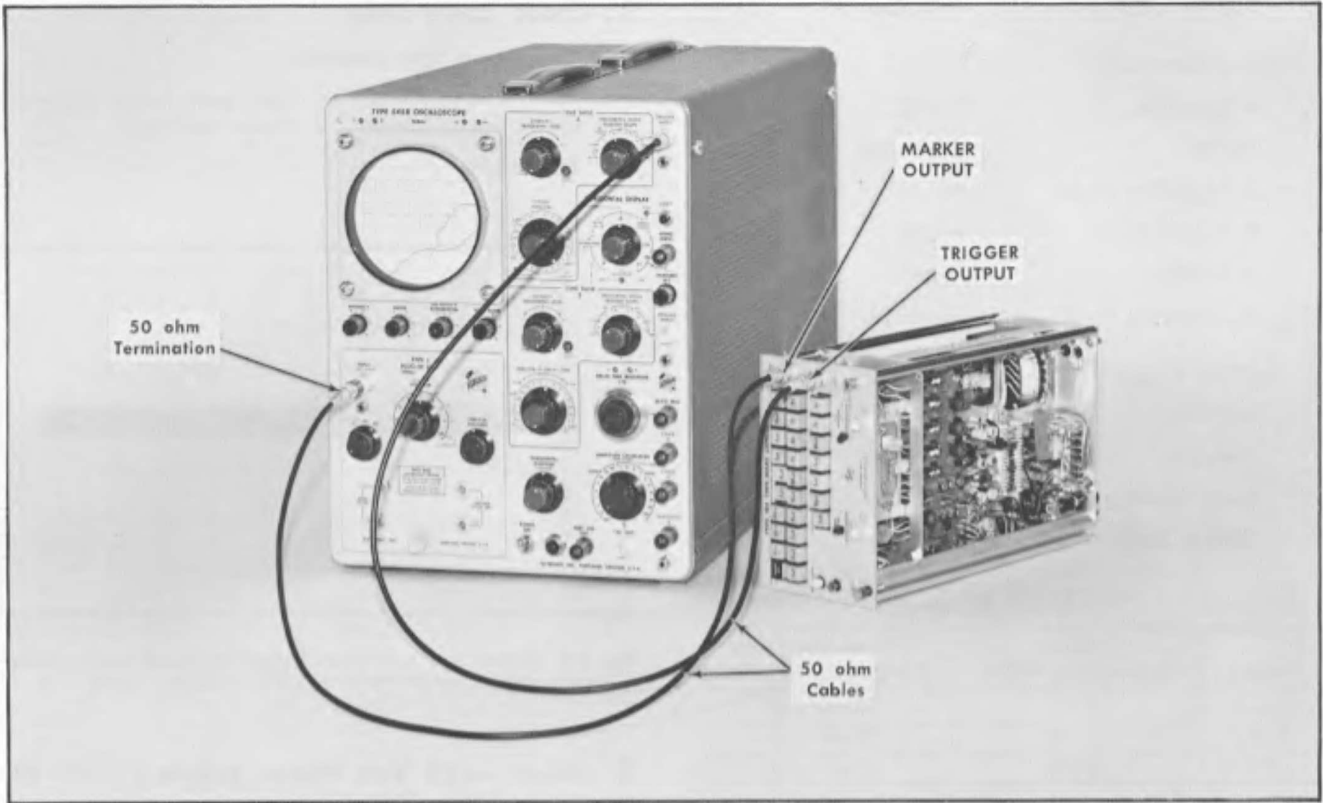

Fig. 6-6. Checking and adjusting .1 μ S and .5 μ S time-markers. Step 4.
- a. Test equipment setup is shown in Fig. 6-6.